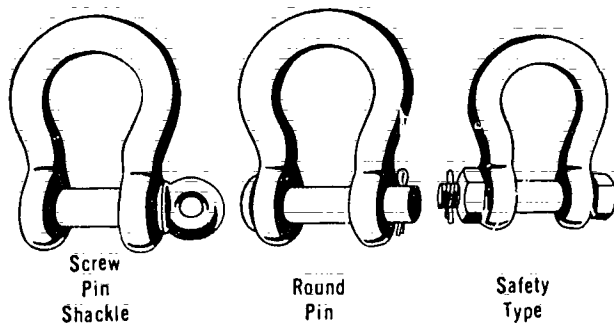

Figure 7-83. Types of Shackles
5. **Shackles** are available in Screw Pin, Round Pin and Safety Type construction, as illustrated in Figure 7-83.